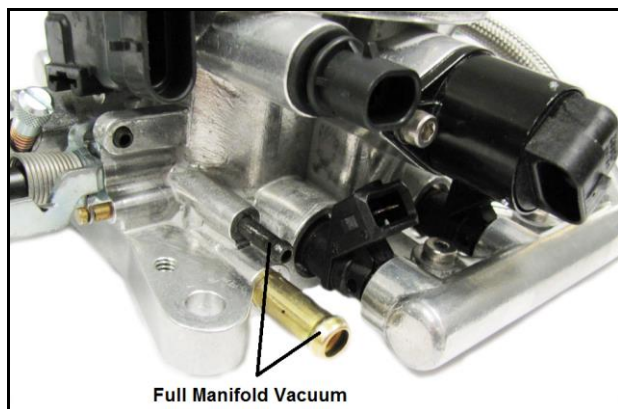

Figure 4
1. Connect the vacuum lines that were previously disconnected. **Figures 4 & 5** show the function of the ports in the TERMINATOR™ throttle body.